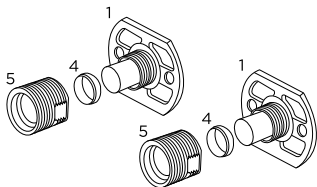

Fig.3
6. Place the olives (4) onto the protruding pipework (See Fig.3).
7. Holding the flat edges of the wall plate (1) with a 47mm spanner screw the fixing bridge (5) onto the wall plate (1) using a 22mm spanner. Repeat this step on both sides (See Fig.3).